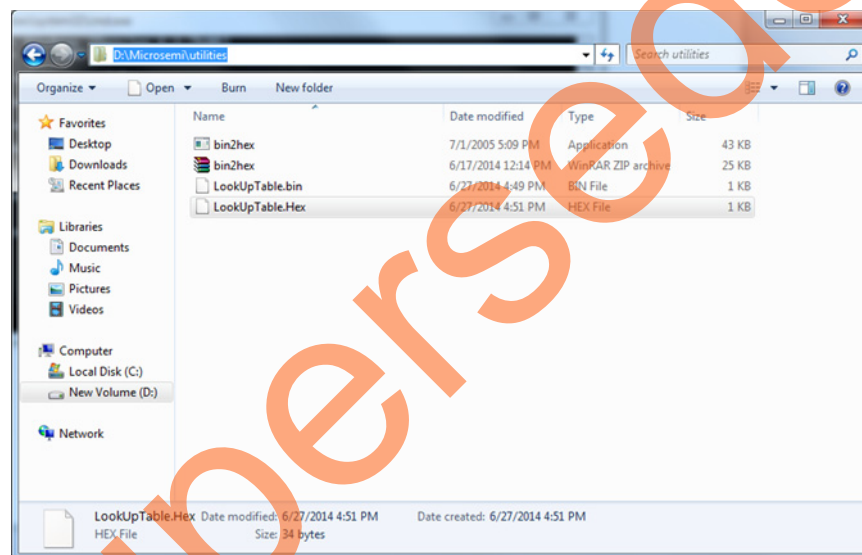

Figure 4 • LookUpTable.Hex File
4. The **LookUpTable.Hex** file is generated as shown in Figure 4. This file is copied to SoftConsole project folder of the eNVM Data client SoftConsole project.